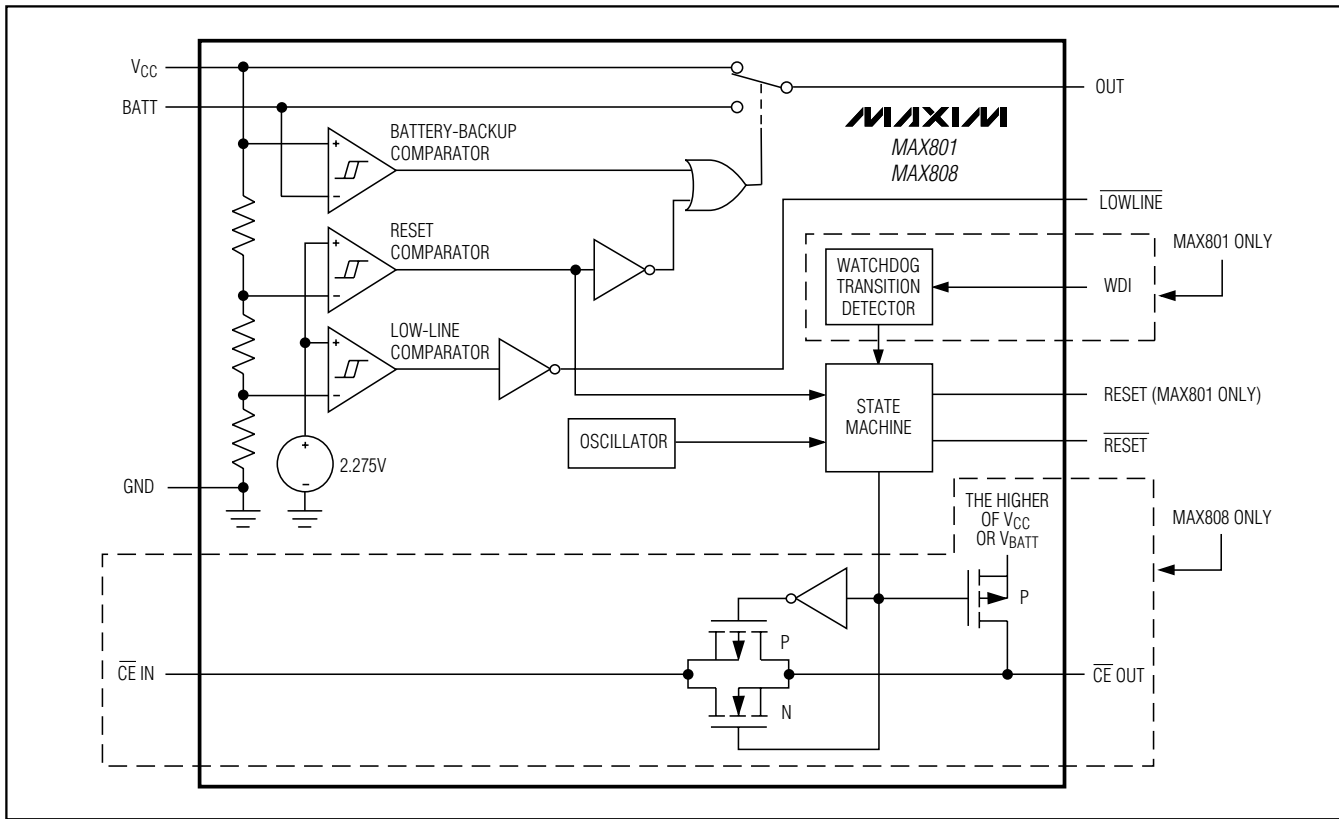

Figure 1. Functional Diagram
The MAX801/MAX808 microprocessor ( $\mu\text{P}$ ) supervisory circuits provide power-supply monitoring and backup-battery switchover in  $\mu\text{P}$  systems. The MAX801 also provides program-execution watchdog functions (Figure 1). Use of BiCMOS technology results in an improved, 1.5% reset-threshold precision while keeping supply currents typically at  $68\mu\text{A}$  ( $48\mu\text{A}$  for the MAX808). The MAX801/MAX808 are intended for battery-powered applications that require high reset-threshold precision, allowing a wide power-supply operating range while preventing the system from operating below its specified voltage range.
The MAX808 provides internal gating of chip-enable (CE) signals to prevent erroneous data from corrupting CMOS RAM in the event of a power failure. During normal operation, the CE gate is enabled and passes all CE transitions. When reset is asserted, this path becomes disabled, preventing erroneous data from corrupting the CMOS RAM. The MAX808 uses a series transmission gate from the chip-enable input ( $\overline{\text{CE}} \text{ IN}$ ) to the chip-enable output ( $\overline{\text{CE}} \text{ OUT}$ ) (Figure 1). The 8ns max chip-enable propagation from  $\overline{\text{CE}} \text{ IN}$  to  $\overline{\text{CE}} \text{ OUT}$  enables the MAX808 to be used with most  $\mu$ Ps.